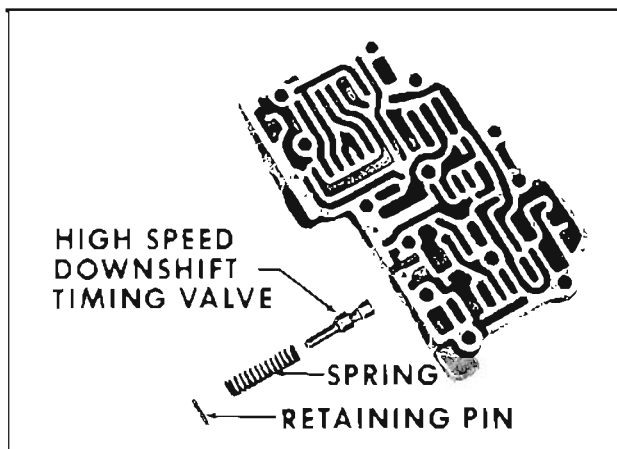

Fig. 6-311 Installing High Speed Downshift Timing Valve
4. Depress high speed down shift timing valve plug and remove pin by turning valve body over so pin will fall free. (Fig. 6-311)
1. Install high speed downshift timing valve, spring and plug. Depress plug with finger and install retaining pin. (Fig. 6-311)